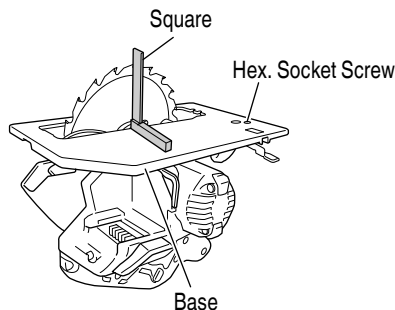

Fig. 37
6. Adjusting the base and saw blade to maintain perpendicularity (Fig. 37)
- (1) Turn the base face up (Fig. 37) and loosen the lever (A).
- (2) Apply a square to the base and the saw blade and, turning the Hex. socket screw with a 3 mm Hex. bar wrench, shift the position of the base to produce the desired right angle.